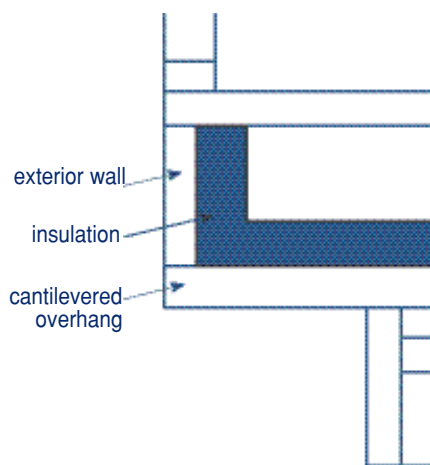

Figure 18: Insulating cantilevered area with batt insulation.
**Step 1:** Working from outside the house, remove portions of the siding or other covering from the bottom of the cantilevered floor (Figures 18 and 19).